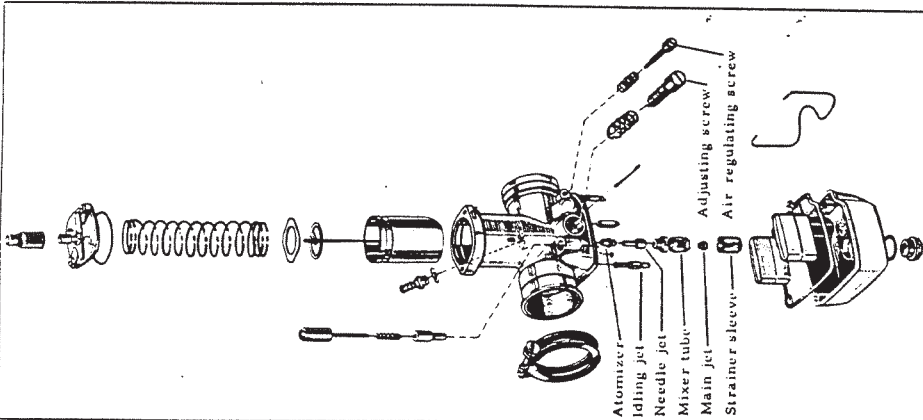

Fig. 20
*Important:* Check that throttle wire and adjusting screw are correctly located. See Fig. 20 and 22.